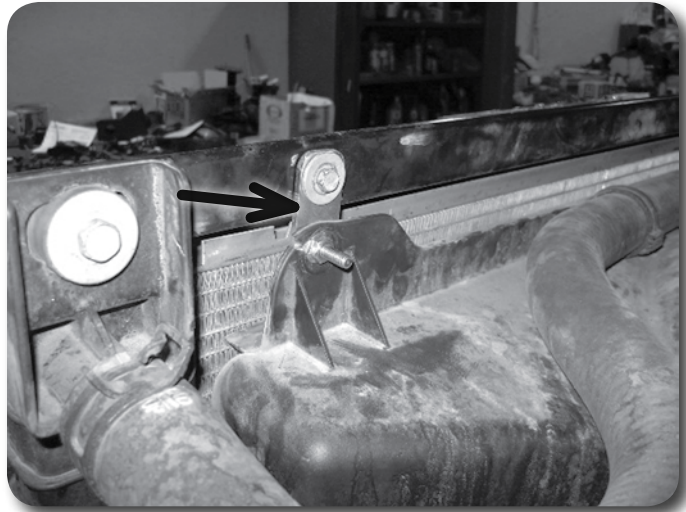

Figure 16
31. Install the new 1.25" fan shroud relocation brackets (w/1/4" studs) to the original shroud mounting holes using the stock bolts **Figure 16**. Install the brackets so the studs point toward the engine compartment. Torque hardware to 10 ft-lbs.